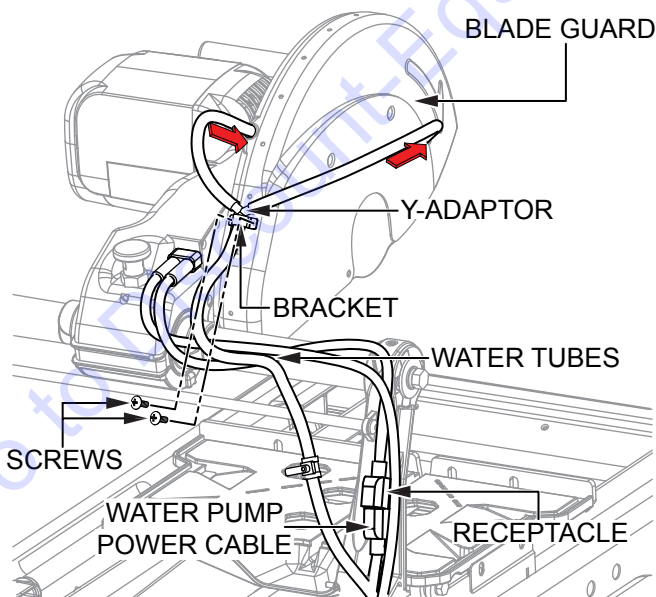

Figure 8. Water Tube Assembly Installation
- The water tube assembly consists of three water tubes connected to a Y-adaptor. Orient the Y-adaptor at the rear of the blade guard as shown in Figure 8.
- The longest of the three water tubes (the one with the control valve at its midpoint) should point downward (toward the floor). Insert the shortest of the three water tubes into the hole at the rear of the blade guard (Figure 8).
- Secure the Y-adaptor to the rear of the blade guard with the provided bracket and screws (Figure 8).
- Insert the remaining tube extending from the top of the Y-adaptor into the hole on the side of the blade guard (Figure 8). Some force may be required to squeeze the mouth of the tube into the hole.
- Locate the power receptacle secured with cable ties to the left support post (Figure 8). Plug the water pump power cable into the receptacle.